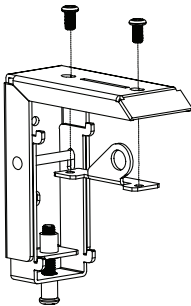

Fig. 14
2. Secure the ceiling hangers to the wall brackets using the M5x10 mm screws supplied and ensure that the screws are tightened securely to the wall bracket. (Figs. 14 and 15)